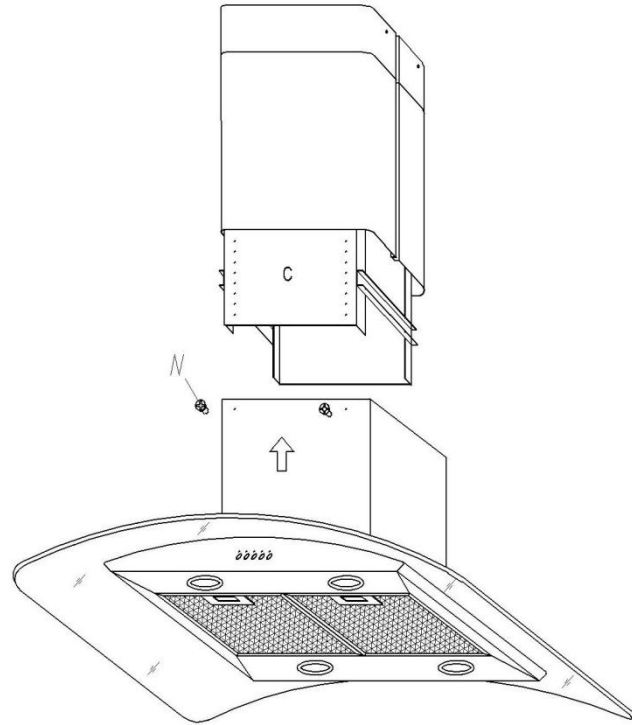

Fig. 9
- Insert the suction unit inside the structure and set in 4 mounting hole, drive in 4 unit screw **N** (Fig.9).